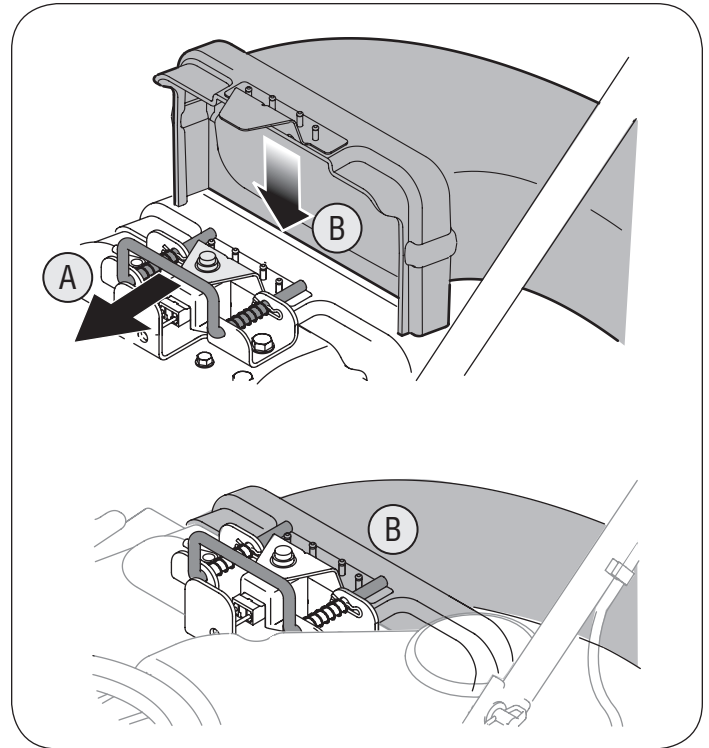

Figure 8
1. a. Grasp blower chute with one hand and slide locking rod on mounting bracket with other hand toward engine. Use the end of mounting bracket as leverage when sliding the locking rod. See Figure 8.
- b. Slip blower chute over rim of discharge opening and release locking rod to secure chute in place, as in Figure 8.